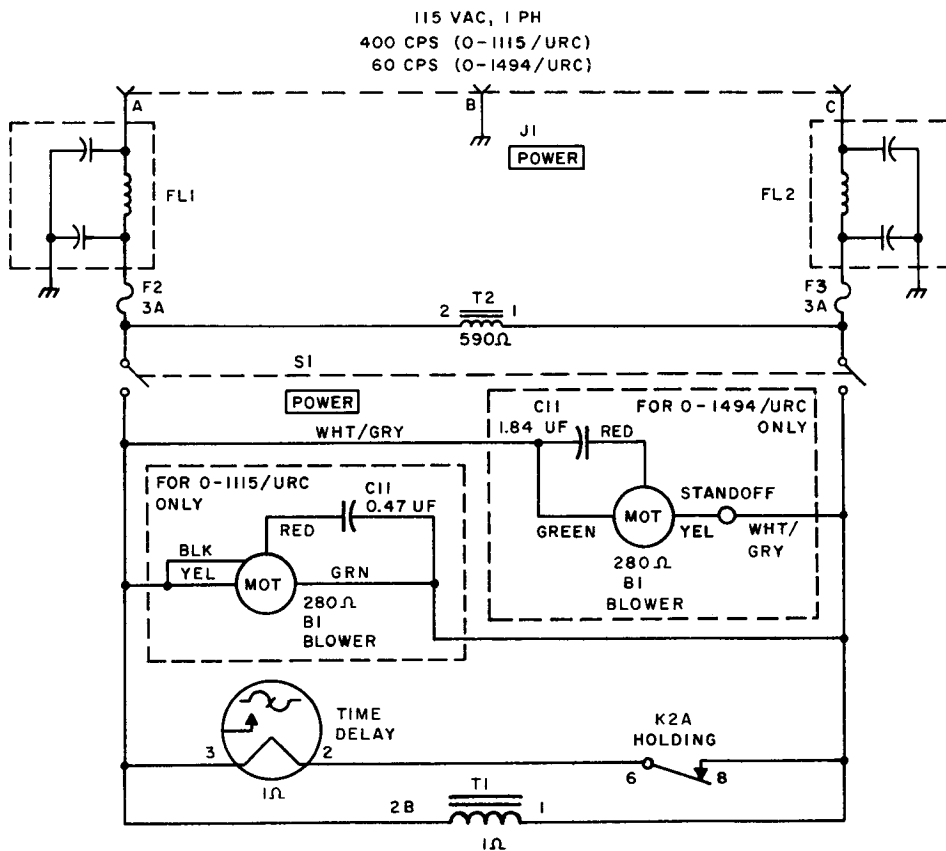

Figure 5-70. Primary Power Distribution, Schematic Diagram
a. SYNTHESIZER, ELECTRICAL FREQUENCY O-1115/URC. - This synthesizer requires 105-125 vac, 400 cps, single phase primary voltage with 1.7 amperes drain at 115 vac. (See figure 5-70.)
b. SYNTHESIZER, ELECTRICAL FREQUENCY O-1494/URC. - This synthesizer requires 105-125 vac, 60 cps, single phase primary voltage with 1.7 amperes drain at 115 vac. (See figure 5-70.)